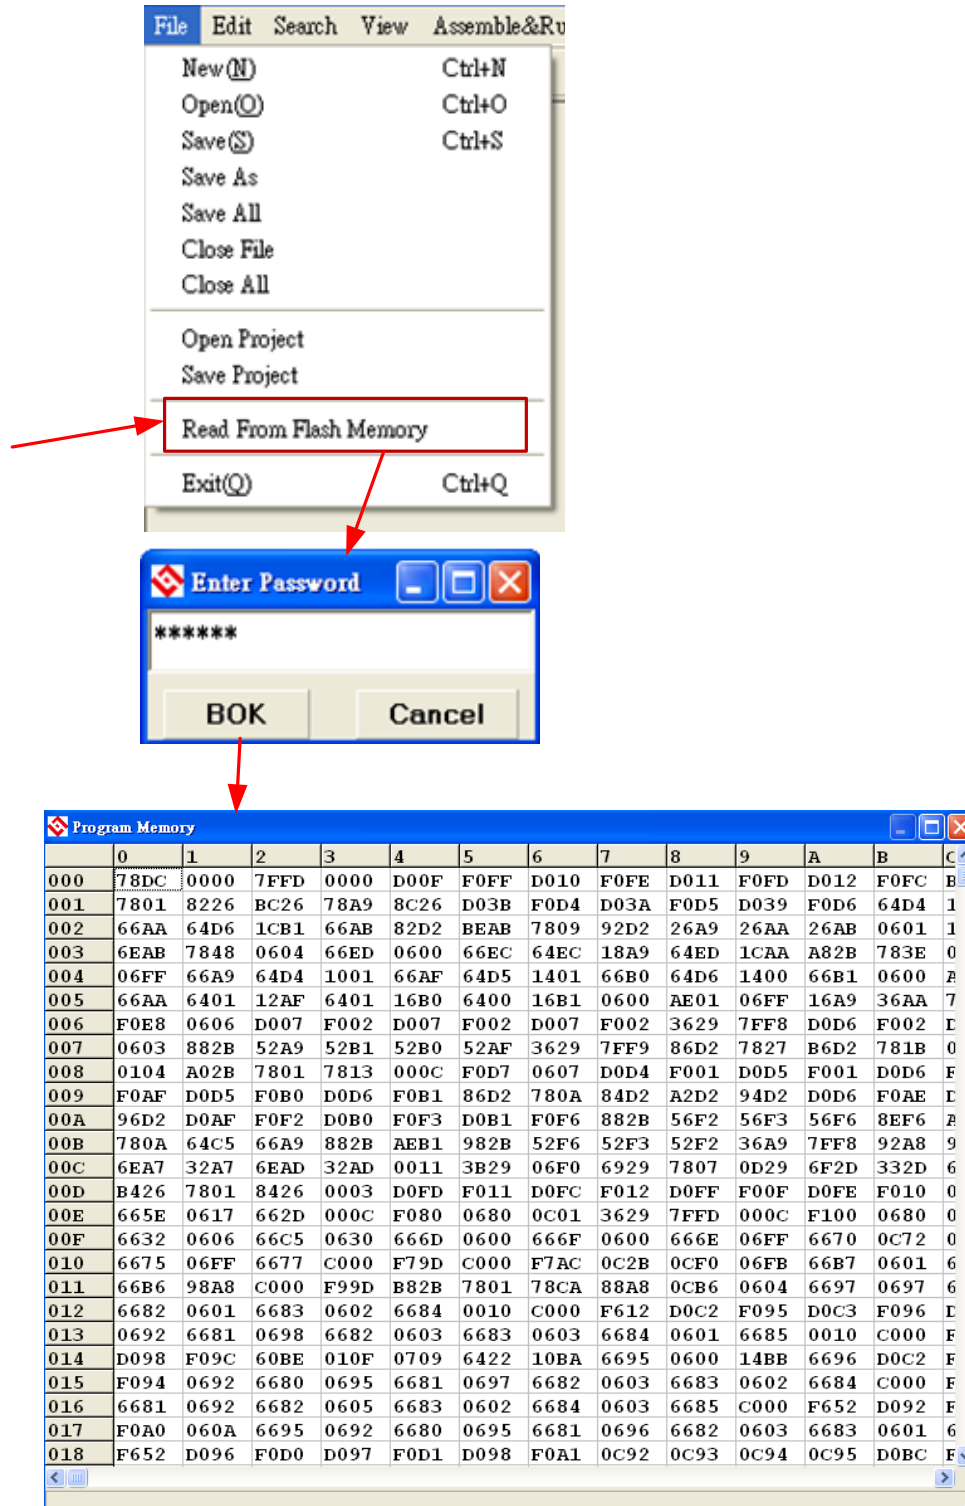

Figure 11
4. After assembling completed, Hex filename and Checksum will be displayed in underneath section, as Figure 11 illustrated.